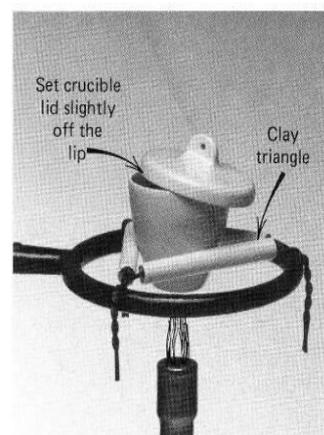

Figure T.15e Ignition of a solid sample in the presence of air for complete combustion.
- Igniting Contents for Combustion.** To heat a solid sample to a high temperature and allow it to react with the oxygen of the air, slightly tilt the crucible on the clay triangle and adjust the cover so that about two-thirds of the crucible remains covered (Figure T.15e). Use the crucible tongs to adjust the cover.